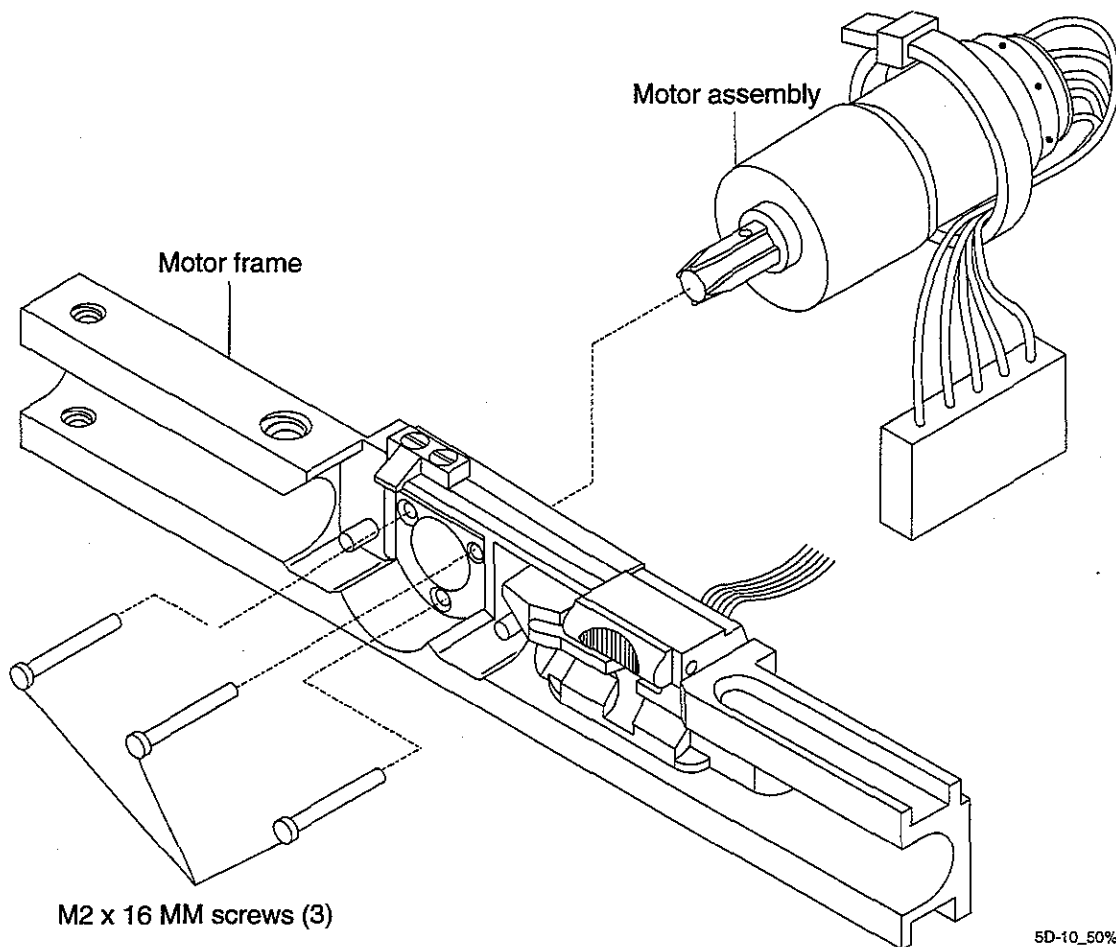

Figure 7-9. Motor Assembly to Motor Frame
4. Apply the Threadlocker to the three M2 x 16 mm screws and thread into place (refer to *Figure 7-9. Motor Assembly to Motor Frame*). Tighten the screws.